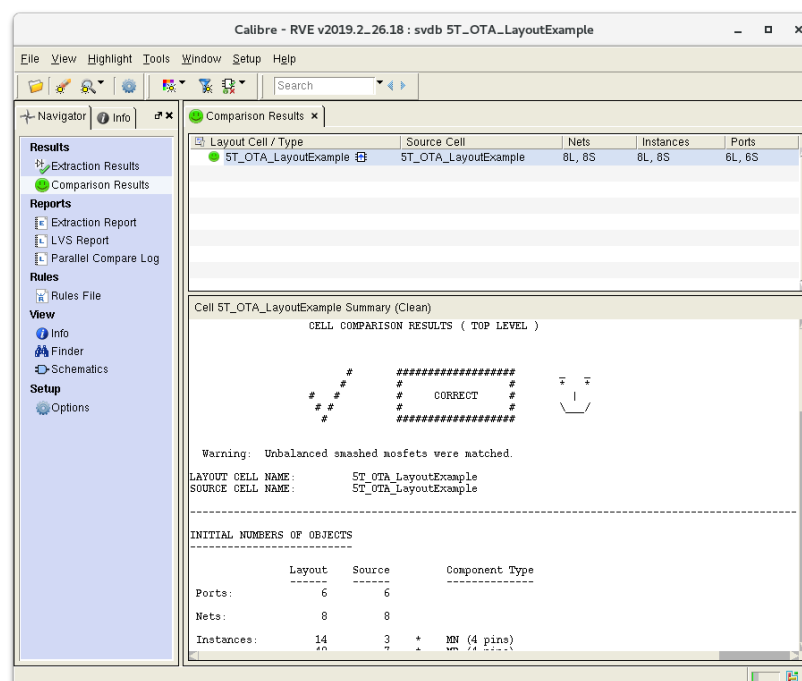

Fig. 15. LVS results
4. If other windows pop up click on overwrite and wait until another window (Fig. 15) shows up giving the results on the LVS run.